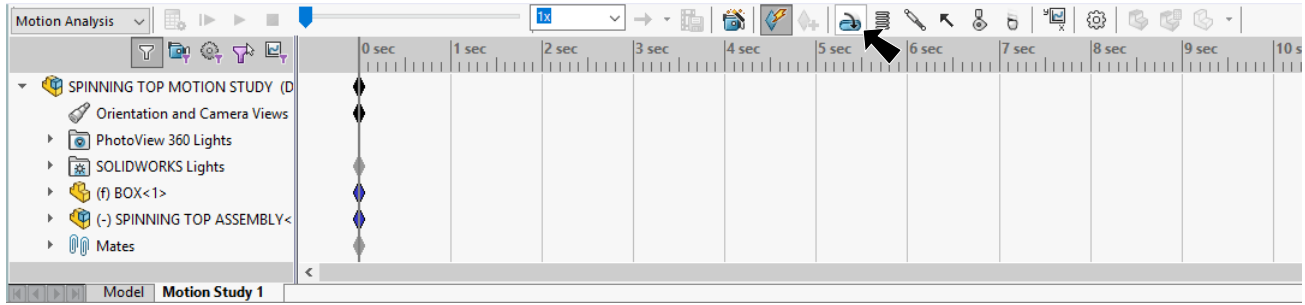

Fig. 3
Step 1. Click **Motor**  on the Motion Manager toolbar, **Fig. 3**.